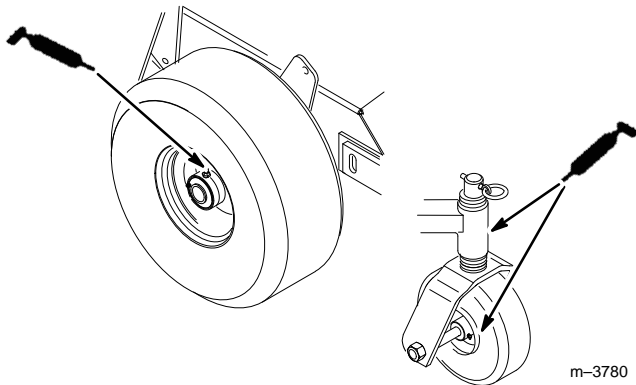

Figure 35
1. Lubricate the drive and castor wheel bearings and front spindles (Fig. 35).